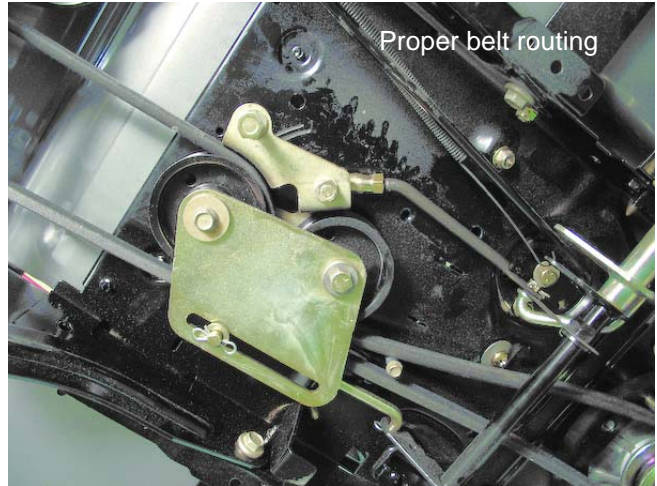

Figure 5.46
14. Attach idler adjustment rod to cobra head bracket with new cotter pin. See Figure 5.46.